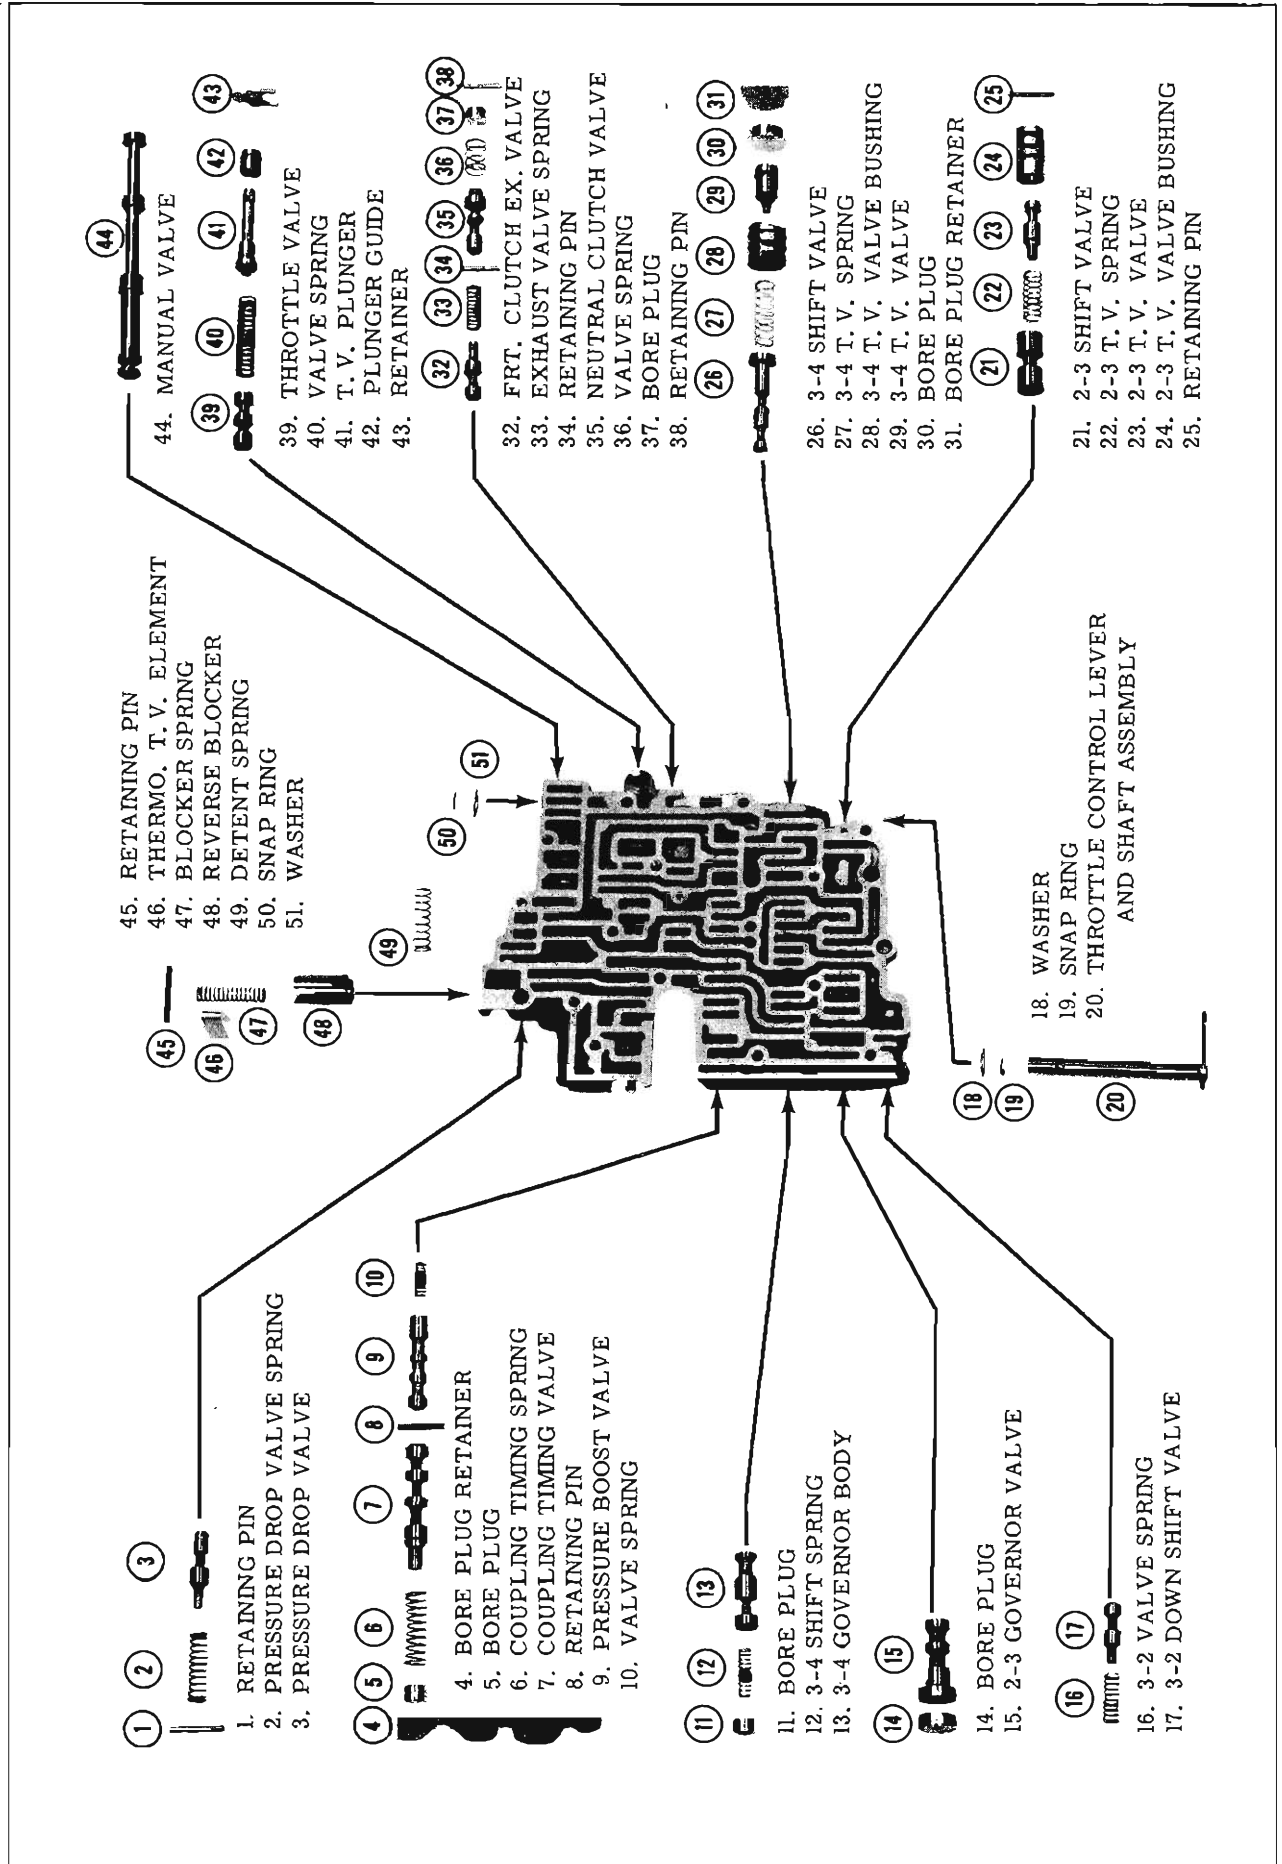

Fig. 6-88 Oil Control Valve Body
DISASSEMBLY AND ASSEMBLY OF CONTROL VALVE ASSEMBLY (Fig. 6-88)
ASSEMBLY—CONTROL VALVE ASSEMBLY (Fig. 6-88)
9. Turn T.V. adjusting screw back to original position, EXACTLY five TURNS. (Fig. 6-88)